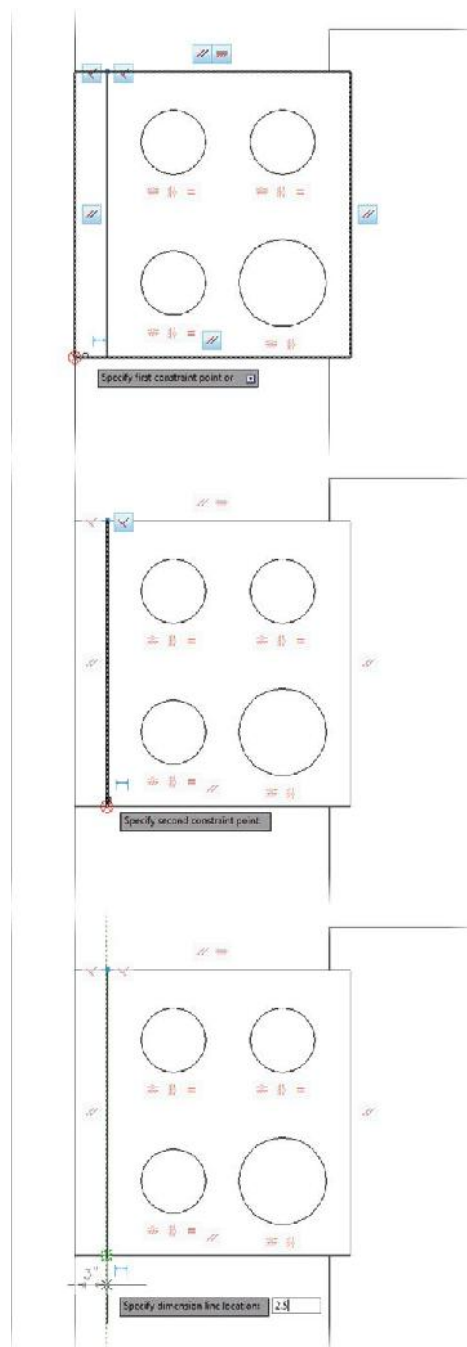

FIGURE 5.53: Applying a Linear dimensional constraint to the stove's control panel
- d. Specify a location for the dimensional constraint, and then enter 2.5" (64 mm) as the value for d1 (see Figure 5.53).